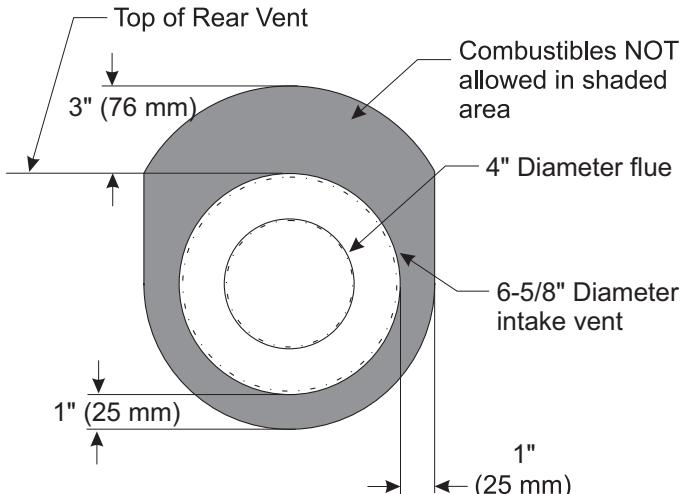

Figure 31
**NOTICE:** Maintain one inch of clearance around vertical vent pipe. **See Figure 31.**
For horizontal vent, maintain a minimum 1 inch clearance to the bottom and sides of the vent, and 3 inch clearance to combustibles above the vent pipe. **See Figure 31.**